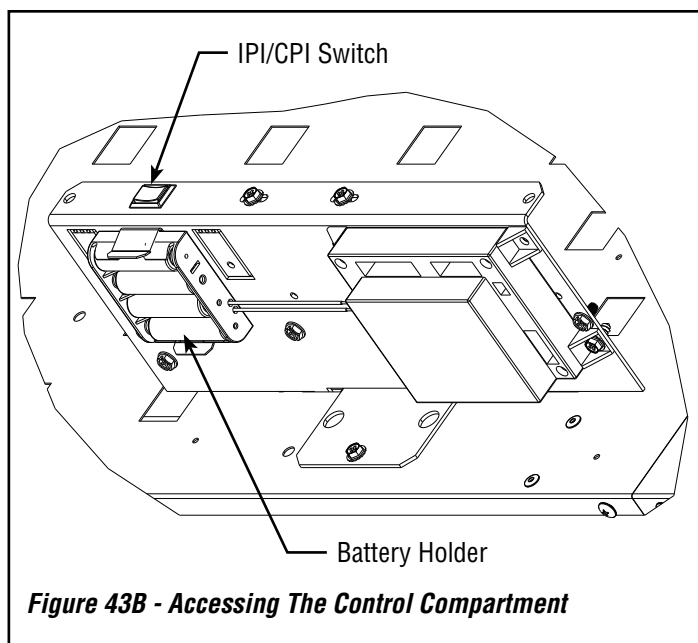

Figure 43B - Accessing The Control Compartment
1. Confirm that batteries are installed in the battery pack (**Figure 43B**).
2. Set the unit-mounted switch, or wall switch to the ON Position (**Figure 43B**).
NOTE: Install new batteries (4 AA) in the battery holder before the burn season (**Figure 43B**). Then, the fireplace can automatically switch to battery power in the event of a power outage.